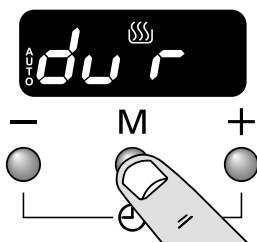
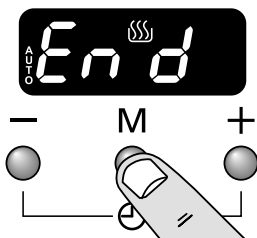

Fig. 5.8
Fig. 5.9
- Press the mode [M] button until the display flashes 'End' (Fig. 5.8). Then set the 'stop time' using the [+] or [-] buttons. Current time will be displayed along with the word 'AUTO' (Fig. 5.9).